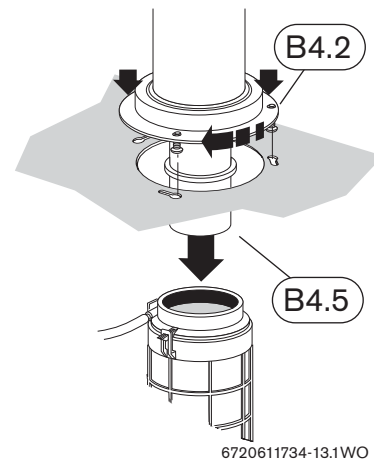

Fig. 13
- ▶ Locate the retaining ring (B4.2) screw heads into the keyhole slots, rotate and secure by tightening the screws from the inside of the boiler. See Fig. 13